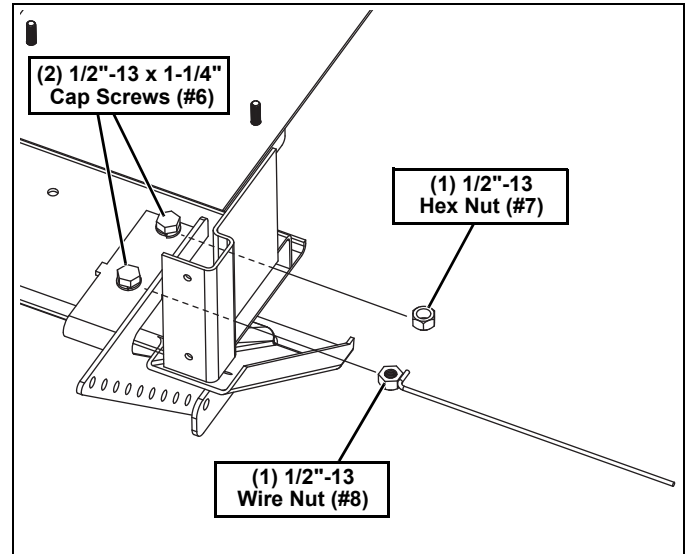

Figure 5
6. Secure the rear 1/2\"-13 x 1-1/4\" Cap Screw (#6) with (1) 1/2\"-13 Hex Nut (#7). (See Figure 5.)
7. Secure the front 1/2\"-13 x 1-1/4\" Cap Screw (#6) with (1) 1/2\"-13 Wire Nut (#8). (See Figure 5.)